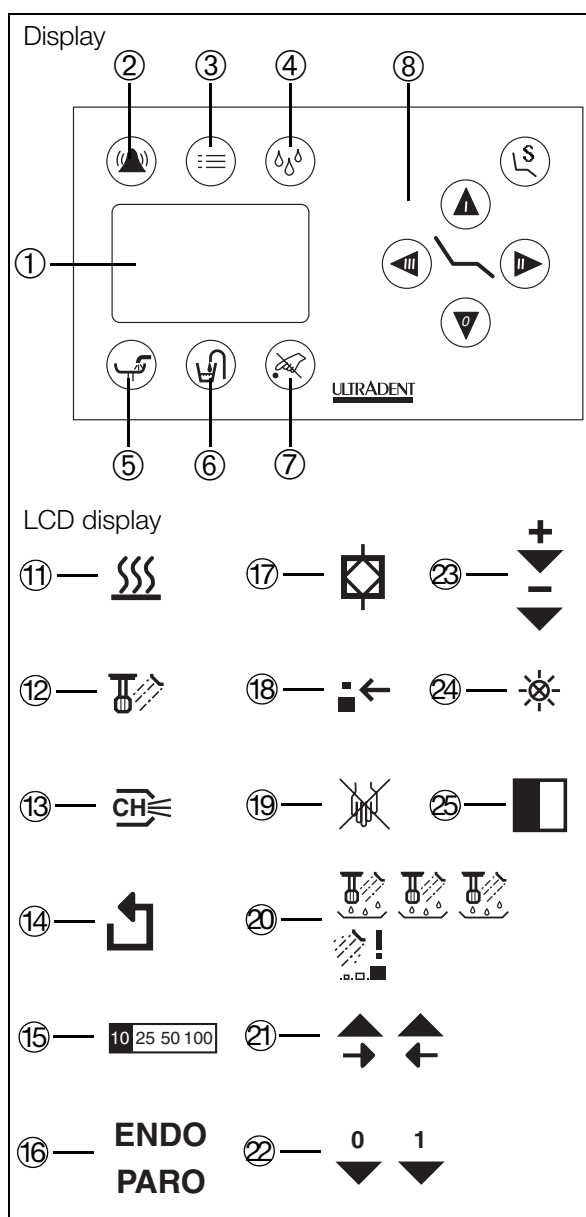
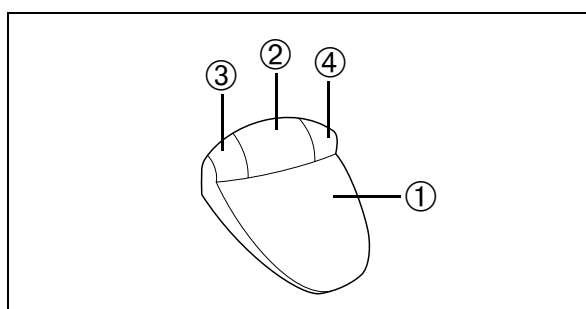

Fig. 55
Fig. 56
- Briefly tap the button ③ (Fig. 56) and repeat if necessary until the ENDO display ⑩ (Fig. 55) is continuously lit.
The ⑩ (Fig. 55) ENDO/PARO setting influences the output power of the handpiece, and must be set precisely in line with the tips used.